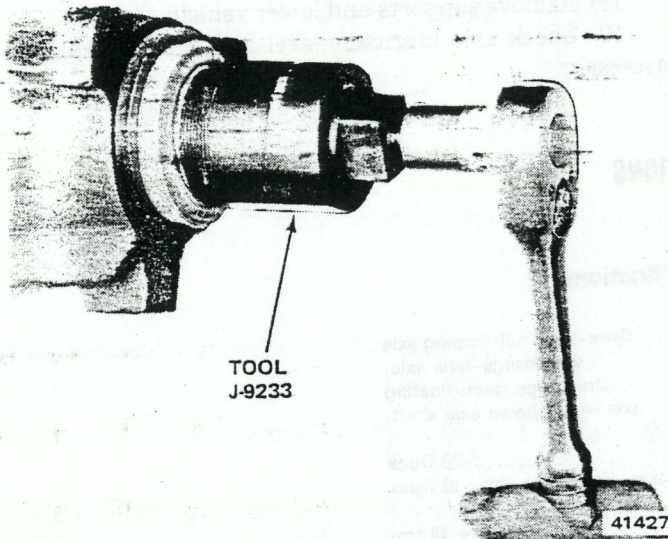

Fig. 2F-27 Pinion Seal Removal
(9) Inspect seal surface of yoke. If surface is damaged or grooved, replace yoke.
(10) Remove pinion seal using Tool J-9233 (fig. 2F-27).
(11) Before installing replacement seal, coat seal lip with rear axle lubricant.
(12) Install seal using Tool J-22661 (fig. 2F-28).
(13) Install yoke on pinion. Note alignment marks.
(14) Install replacement pinion nut. Tighten nut using Tools J-8614-01 and J-22575 to remove pinion bearing end play only. **Do not overtighten nut.**
(15) Check torque required to turn pinion gear. Pinion gear must be turned several revolutions to obtain accurate torque reading. Refer to torque reading recorded during disassembly and add 5 inch-pounds (0.56 N•m) more torque to this amount for correct preload torque.
(16) If preload torque is less than desired amount, which should equal disassembly torque reading plus 5 inch-pounds (0.56 N•m), tighten pinion nut slightly and recheck torque.
(17) Repeat gradual tightening procedure until desired torque is attained. **Do not loosen and retighten nut.**